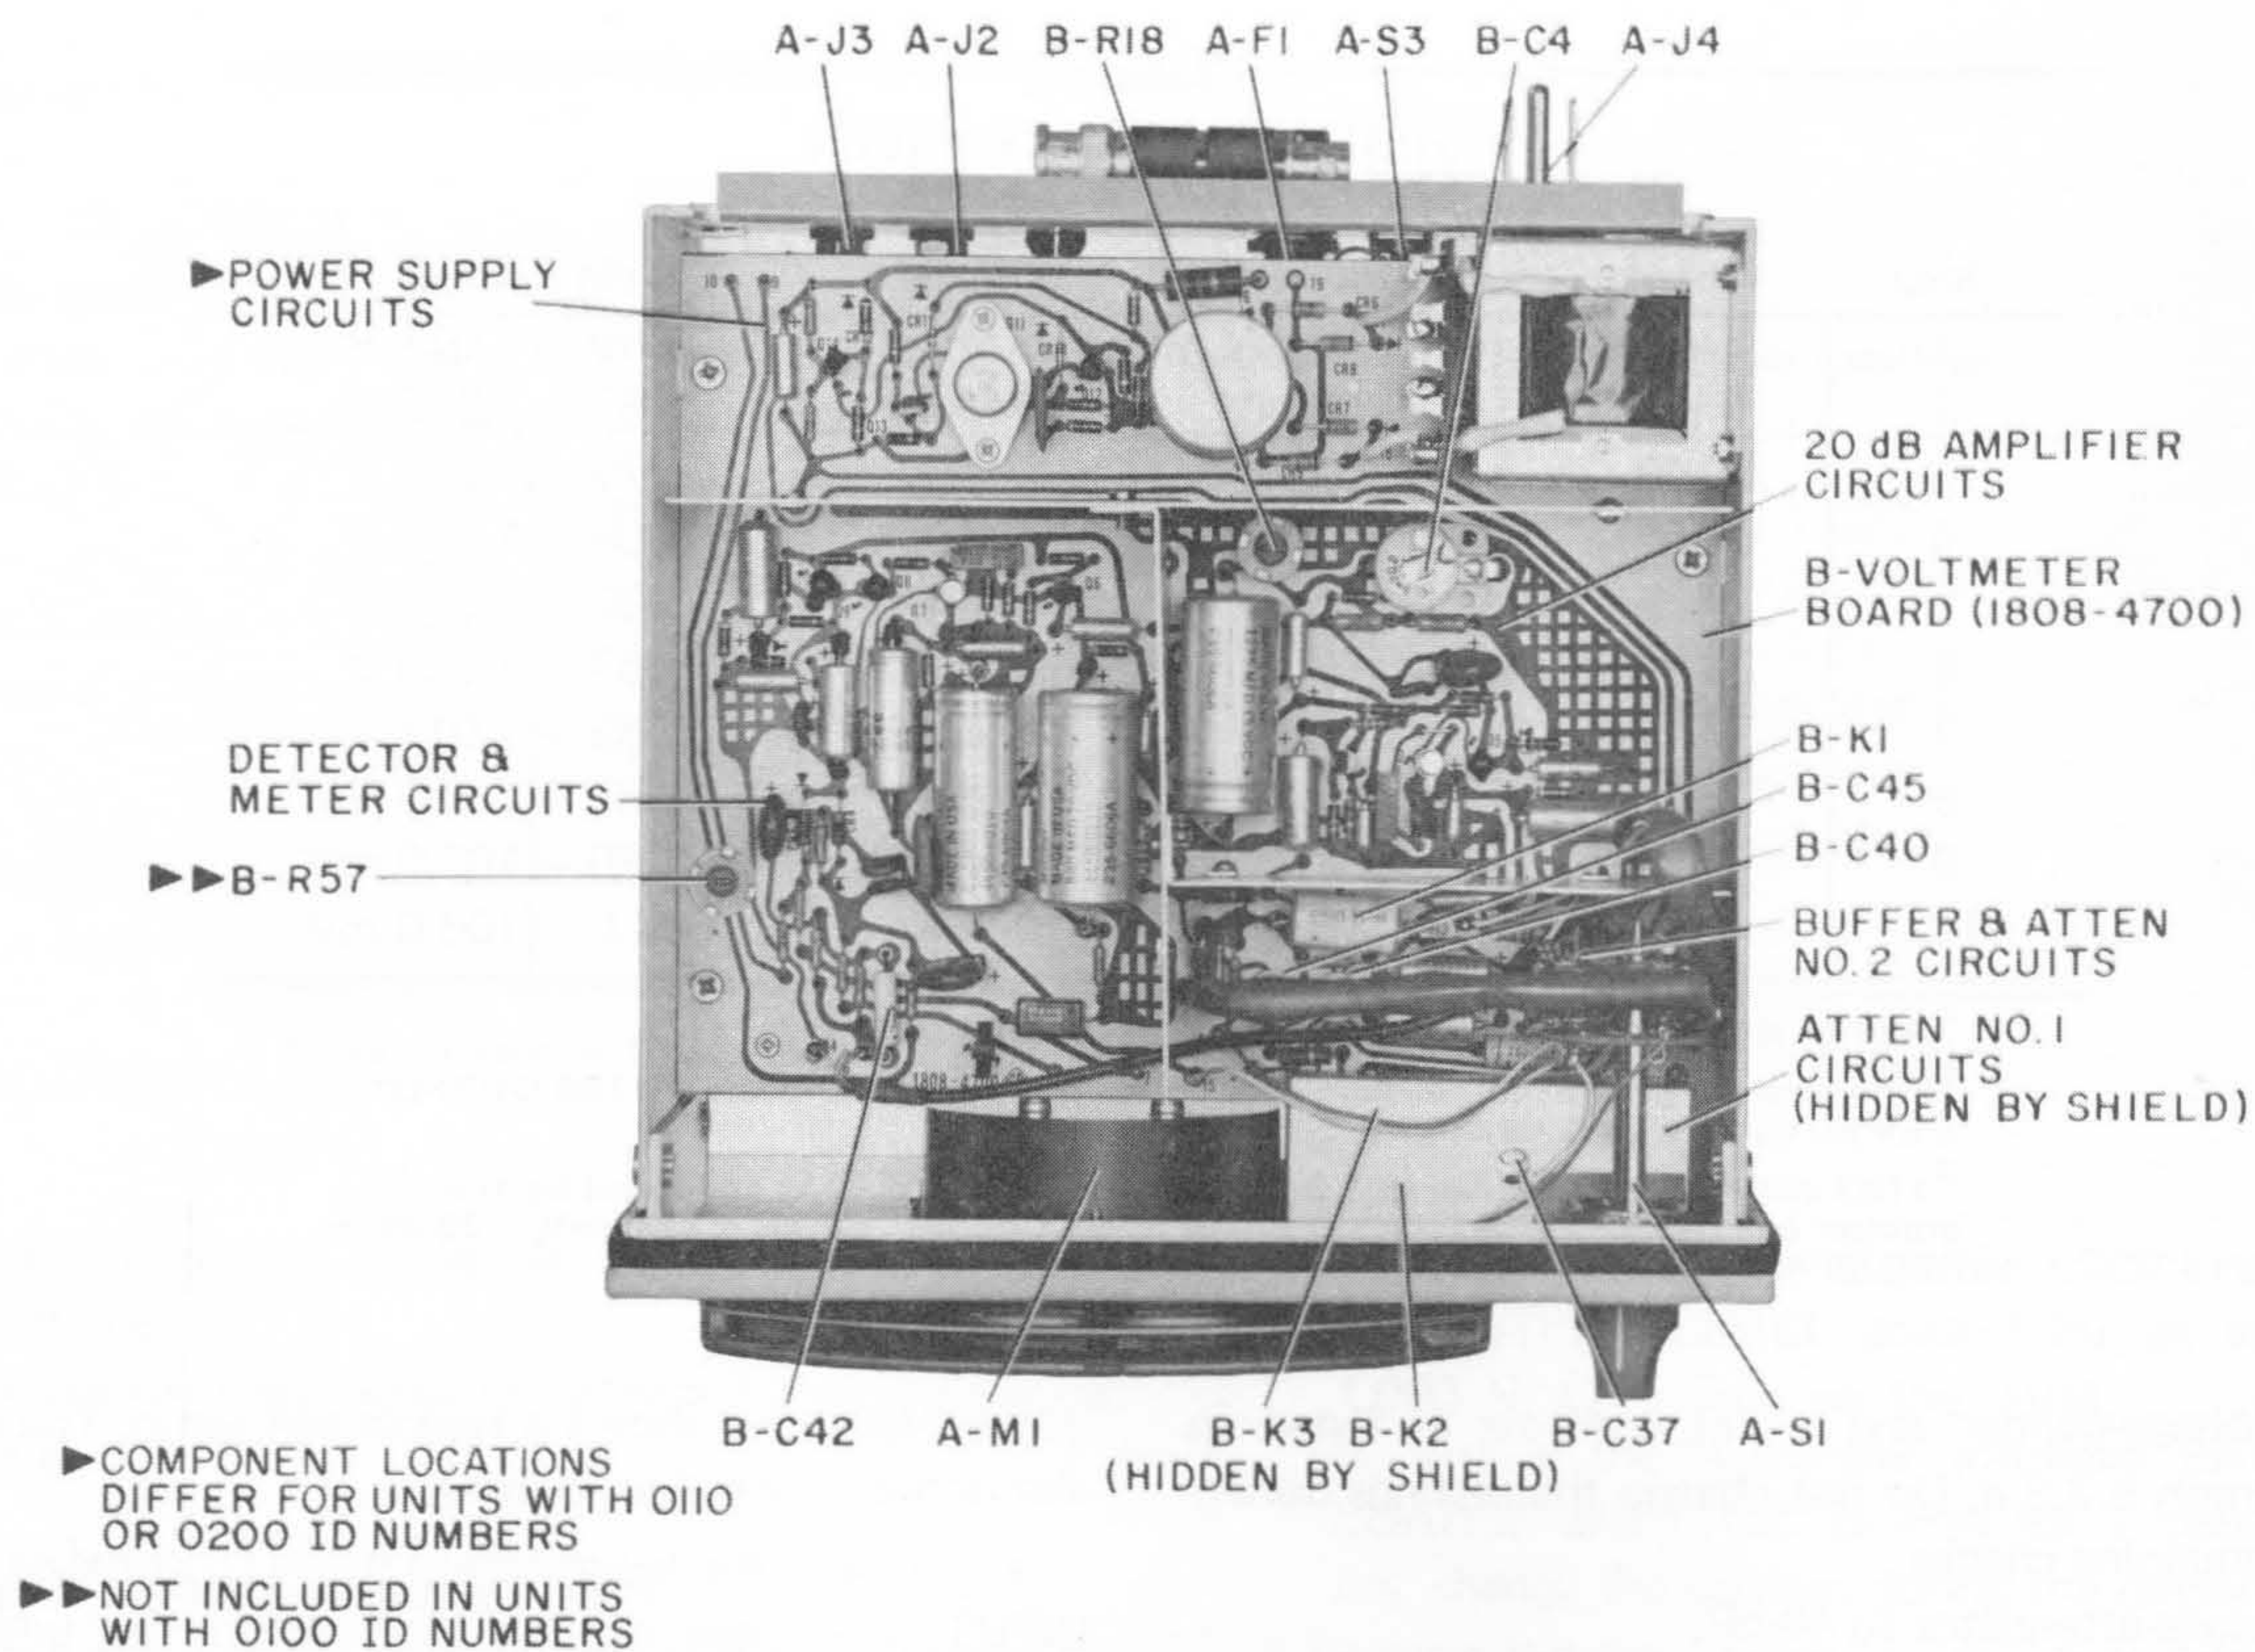

Figure 5-2. Top interior view of Millivoltmeter.
Calibrate the millivoltmeter whenever minimum performance standards, operating procedures, troubleshooting, or maintenance checks indicate that the instrument is out of calibration. Table 5-1 lists the test equipment recommended to perform the calibration while Figure 5-1 shows a typical test setup. All controls requiring adjustment are mounted on the B-voltmeter board, and are identified in Figure 5-2. To gain access to the controls requiring adjustment, remove the chassis from the cabinet, as described in paragraph 5.7.1. Make sure that all shields
1. Capacitor B-C42 (Figure 5-2) is attached to the etched-circuit board by two solderless plug-in jacks.
equivalent) using a 10-M Ω voltage probe and probe adaptor referenced to circuit ground on the 1.5 V range. Test locations specified are general locations between stages. Major stage locations are shown in Figure 5-2.